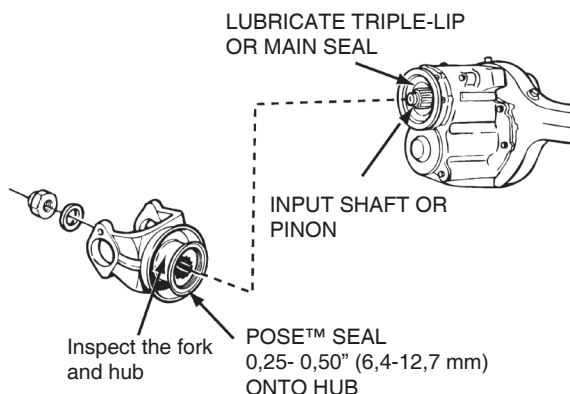

Figure 5.98
1. Apply axle lubricant to the hub of the fork or flange. Figure 5.98.